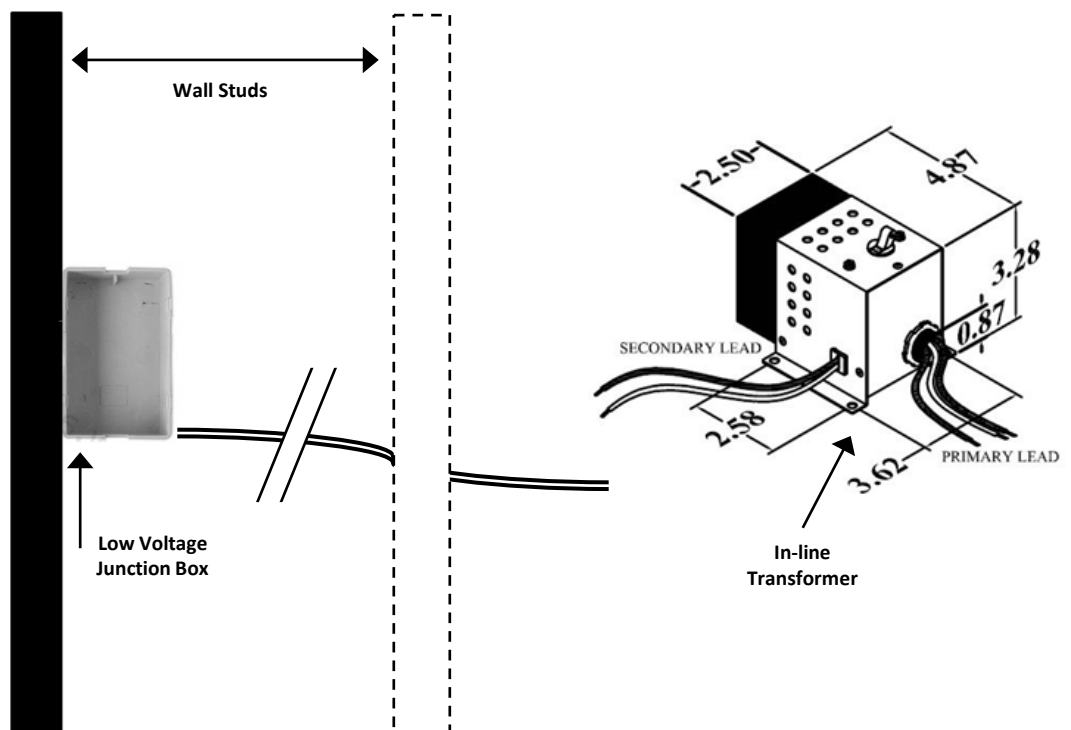

Figure 1. Locating the junction box and running wires (front view).
6. Remove the marked area of wallboard and mount the junction box per manufacturers instructions. (see Figure 1).